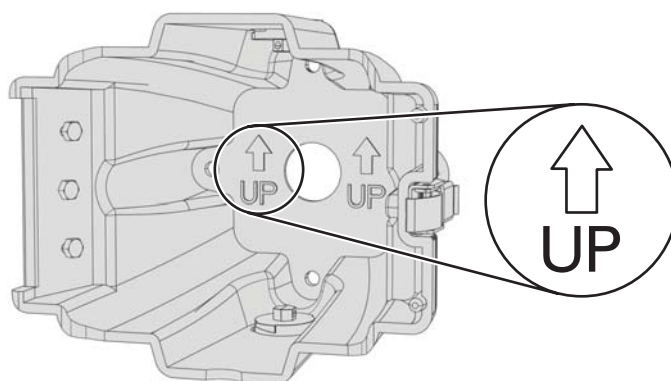

Figure 14. J-Box Orientation
3. Orient the J-box so that the arrows and the word UP are pointed up (refer to Figure 14).